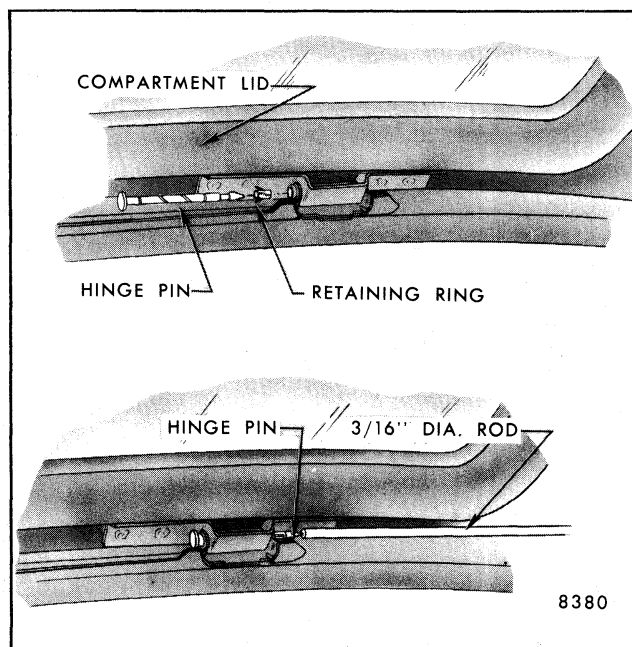

Fig. 7-11-Hatchback Lid Hinge - "H-07, 77" Style - Right Side Shown
5. For "H-07 and 77" styles, with helpers supporting lid, use a 3/16" diameter rod 18 inches long to remove hinge pins from hinges. As illustrated in Figure 7-11, place end of rod against pointed
8. To install "H-07 and 77" hatchback lid, reverse removal procedure and prior to installing hinge pins, install new retaining ring in notches provided in pins. Position retaining ring so that tabs point toward head of pin as illustrated in Figure 7-11.